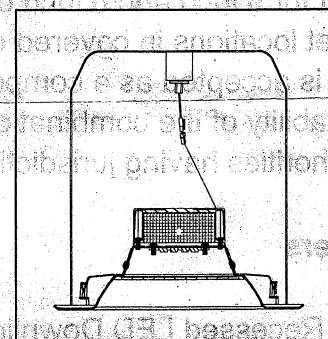

Fig.4
Step 5. Carefully route wires into housing and push module up flush to ceiling surface (Fig.4)